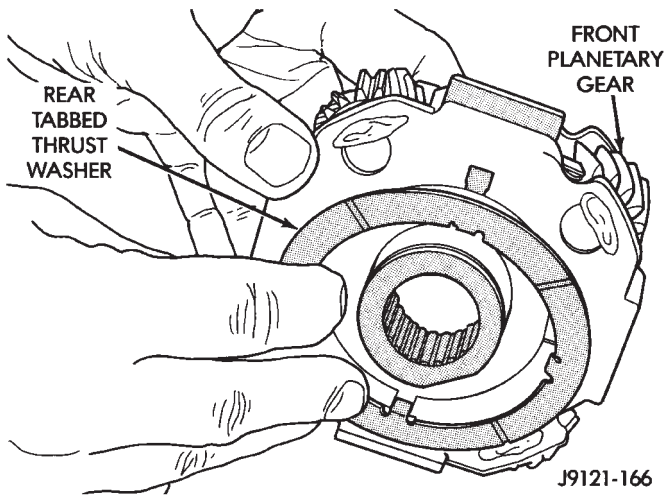

Fig. 161 Installing Rear Thrust Washer On Front Planetary Gear
(13) Install rear thrust washer on front planetary gear (Fig. 161). Use enough petroleum jelly to hold washer in place and be sure all four washer tabs are seated.